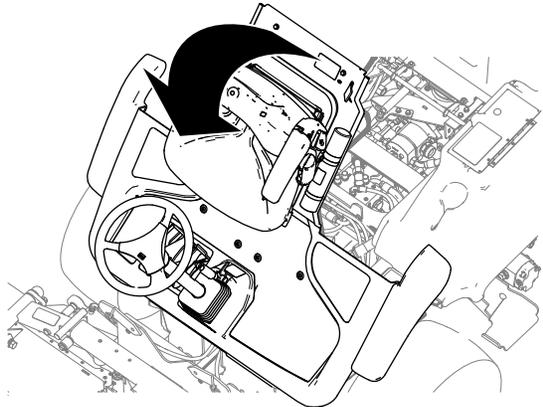

Figure 49
2. Raise the platform (Figure 49).